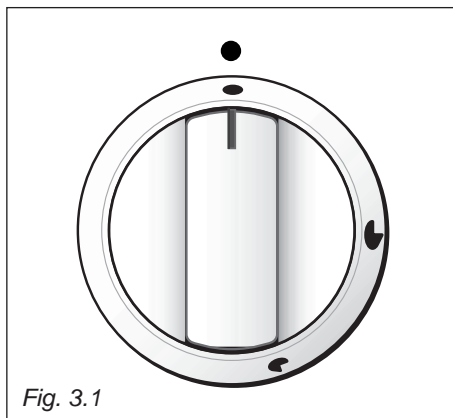
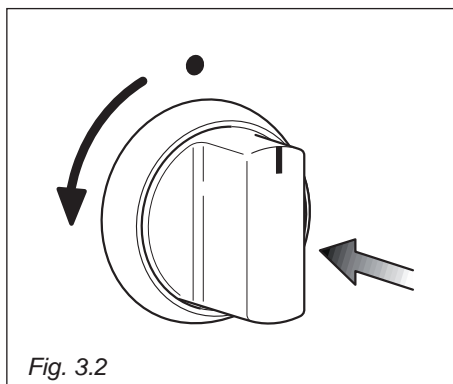
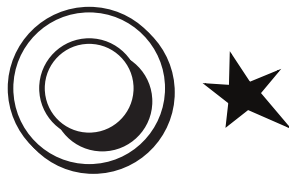

Fig. 3.1
Fig. 3.2
Fig. 3.3
Each burner is controlled by a gas tap (fig. 3.1) assuring the opening and the closing of the gas supply.
1. Press in the corresponding knob and turn counter-clockwise (fig. 3.2) to the full flame position marked by the  symbol (fig. 3.1) and hold the knob in until the flame has been lit. Press the ignition button marked by the symbol  (fig. 3.3). The sparks produced by the electrodes situated next to the burner will light the selected burner. In the case of a mains failure light the burner with a match or lighted taper.